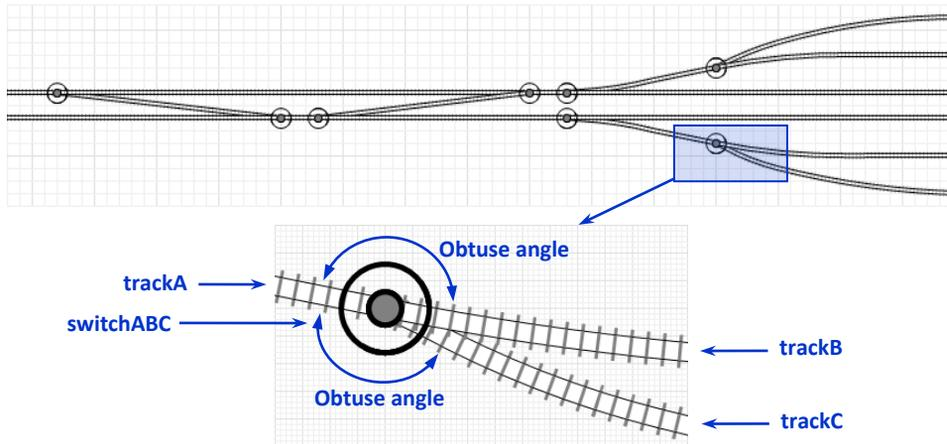

Figure 9.2 A fragment of rail topology near a railway station. Defining a switch
1. Each switch must contain exactly three railway track ends (see Figure 9.2)